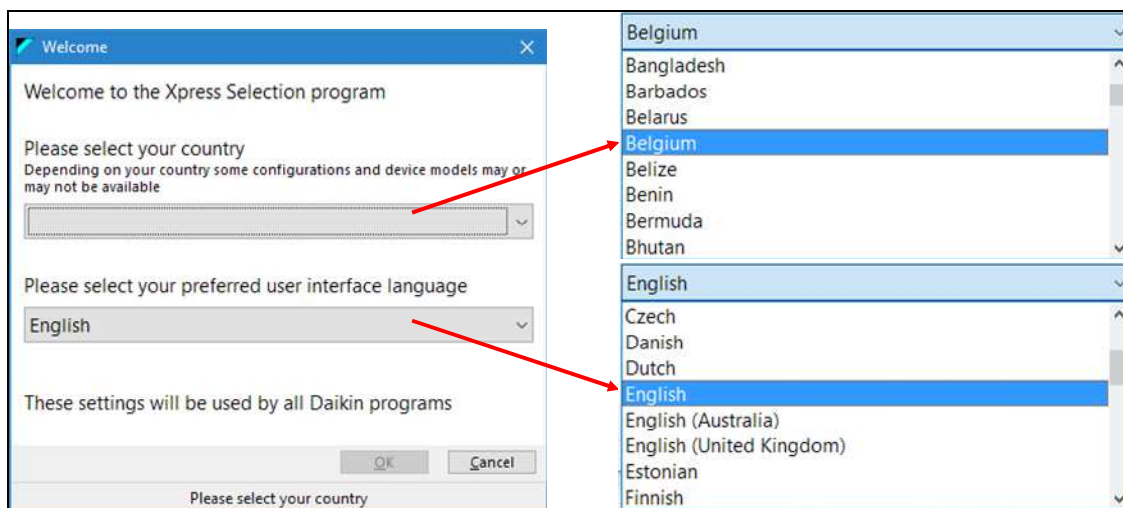
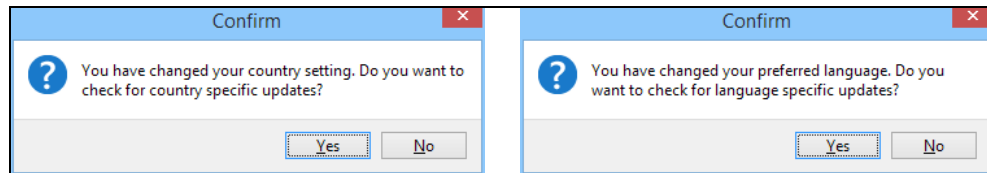

Figure 10: Selecting the country and the language
Figure 22: Confirming a lookup for new versions
If VRV\_Xpress does not find these global settings, it will display a *Welcome* window, as shown in Figure 10 at the left. At the right, you find the selections you can choose from. The lists shown here are much larger than the countries or languages supported by Daikin. However, when checking for new versions (see section 2.2), there are two possibilities:
For some languages, Daikin offers variant versions. So, these languages appear as sub versions of that language, as for instance English (Australia) in Figure 10.
2. The "**Localization**" command button brings up a window similar to the Welcome window in Figure 10, in which you can change the selected country and language (see section 2.1). Changing the country may lead to different configurations than in the current country and changing the language obviously may lead to a different language version. When closing this window, VRV\_Xpress notices the changes and displays one of the question windows from Figure 22: